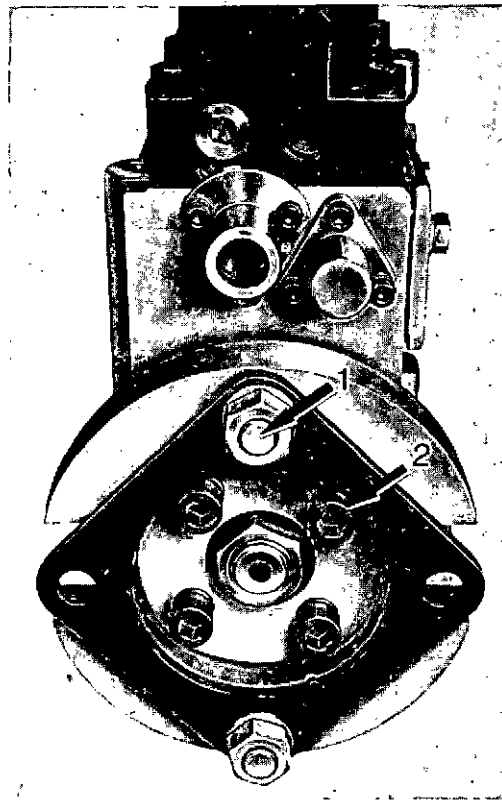

Fig. 7. Injection pump coupling
- (a) With the flywheel timing set to the correct timing figure, slacken the socket capscrews which hold the drive coupling to the injection pump hub (fig. 7). Turn the hub in the normal direction of rotation by hand, then turn the hub back until the timing mark on the hub coincides with the pointer; retighten the capscrews.